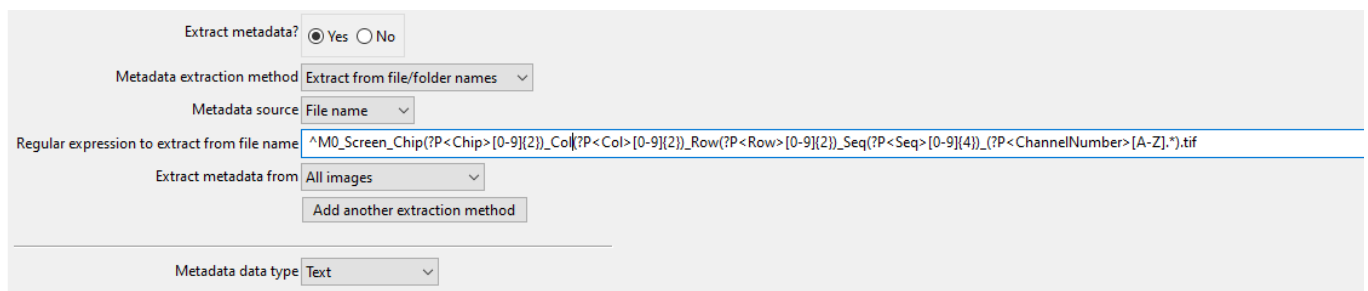

Figure 5 Regular expression used by CellProfiler to identify the metadata from a file name.
- Next, click on the Metadata module to extract information from the filenames. Therefore we make use of a regular expression. The regular expression is based on the filenames given to the cropped images obtained with the MATLAB script. There is only one field you always have to change (Figure 5):